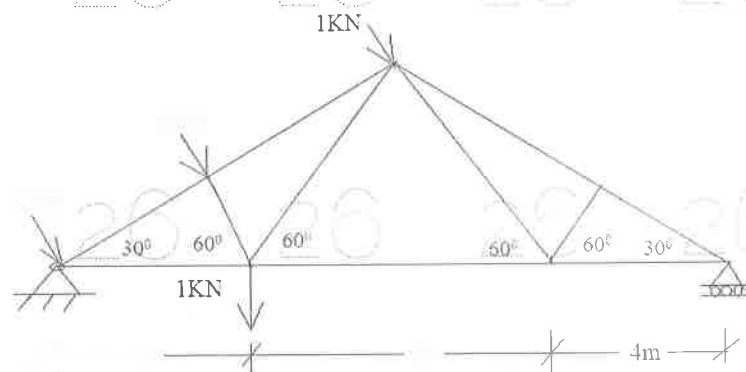

Figure: 1
2. Determine the forces in the members of the Truss shown in Figure 1. [10]